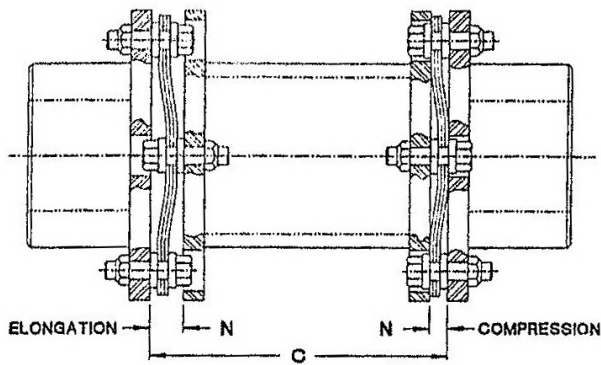

Figure 4 Wavy disk packs on both ends of the coupling. One end is compressed, and the other is elongated.
5. Wavy disk packs on both ends of the coupling. One end is compressed, and the other is elongated. See Figure 4. This is called "oil canned" disk packs. The disk pack has no neutral center where it remains flat and parallel with the end flanges. Loosen all locknuts, correct the axial spacing, and tighten the locknuts. If this doesn't resolve the problem, the disk packs might have been permanently deformed. Replace the disk packs and reassemble the coupling.